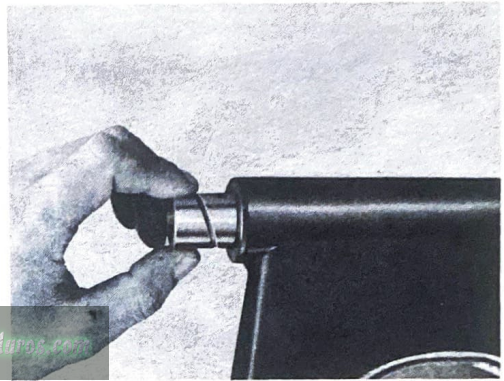

Fig. 5-9-5
- 2) Insert the bushing as indicated in Fig. 5-9-5, and check it for play. If the play is excessive, replace the bushing. (Fig. 5-9-5)